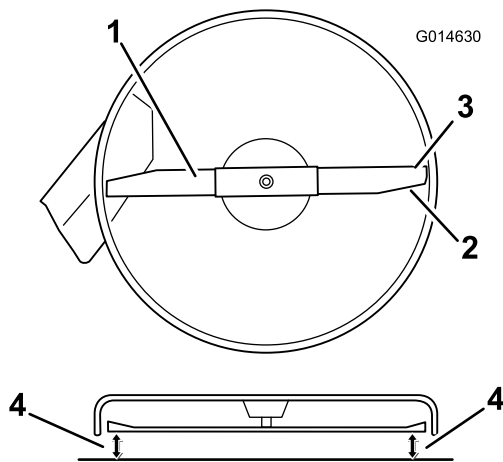

Figure 48
4. Carefully rotate the blade(s) so that they are all side to side (Figure 48).
5. Measure between the outside cutting edges and the flat surface (Figure 48). If both measurements are not within 3/16 inch (5 mm), an adjustment is required; continue with this procedure.